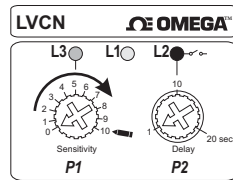
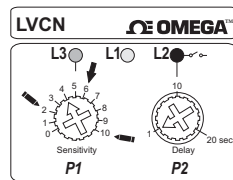

Fig.2
Fig.4
Material falling onto the probe can cause damage or switching errors. If this is unavoidable, it is recommended that a protective shield be installed above the probe to protect it. The shield is also recommended when the probe is used for a low level switch or in the outflow of the product (Fig. 2).
The tip of the probe should slightly point downward (when possible) so that if there are any excess of product it will easily slide from the probe (Fig. 2).
When installing the sensor directly to the tank make sure that the rod extends beyond the inner wall of the tank, by as much as possible, so that internal build up or other debris does not interfere with the sensor's performance (Fig. 2 correct Fig. 4 incorrect).
3. With the vessel empty (or the medium not in contact with the sensor), turn the sensibility potentiometer (P1) clockwise until the yellow LED (L3) turns On. Mark that location on the electronics' label using a pencil. If this LED (L3) does not turn on, mark the maximum position on the label with a pencil (Fig. 2).
Do not turn or handle by the housing when tightening the process connection. However, the housing is suitable to be reoriented by once the process connection has been tightened.(Fig. 2).
The probe should not be dropped or suffer any impact or fall that could damage the electronics or the plastic tip of the probe (Fig. 4 and 5).